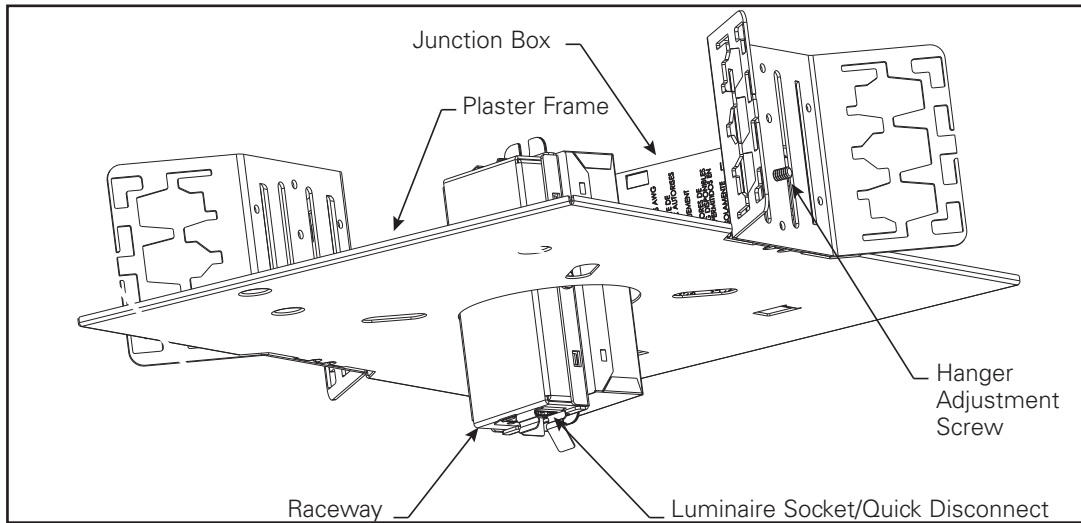
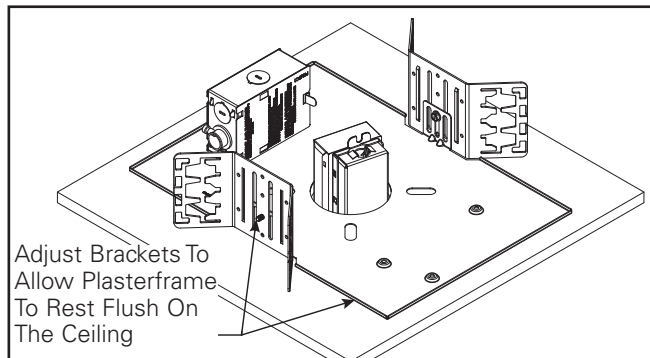

Figure 1
Figure 2
2. Hanger Adjustment Screw: Adjust hanger adjustment screws (Figure 1.) so the plasterframe rests flat on the ceiling. (Figure 2.) Hanger bracket is reversible for total adjustment of 5".
1. Bring raceway through and below the ceiling. Locate the quick disconnect socket on the raceway (see figure 1).